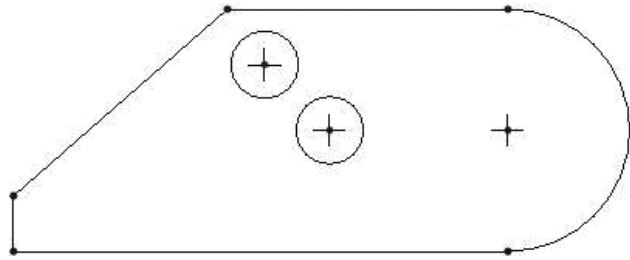

Figure 3-21 Delete Lines
- Step 7:** Use  to erase the line on the right end of the original figure and the left half of the circle. See Figure 3-21. *Press* MMB to terminate.